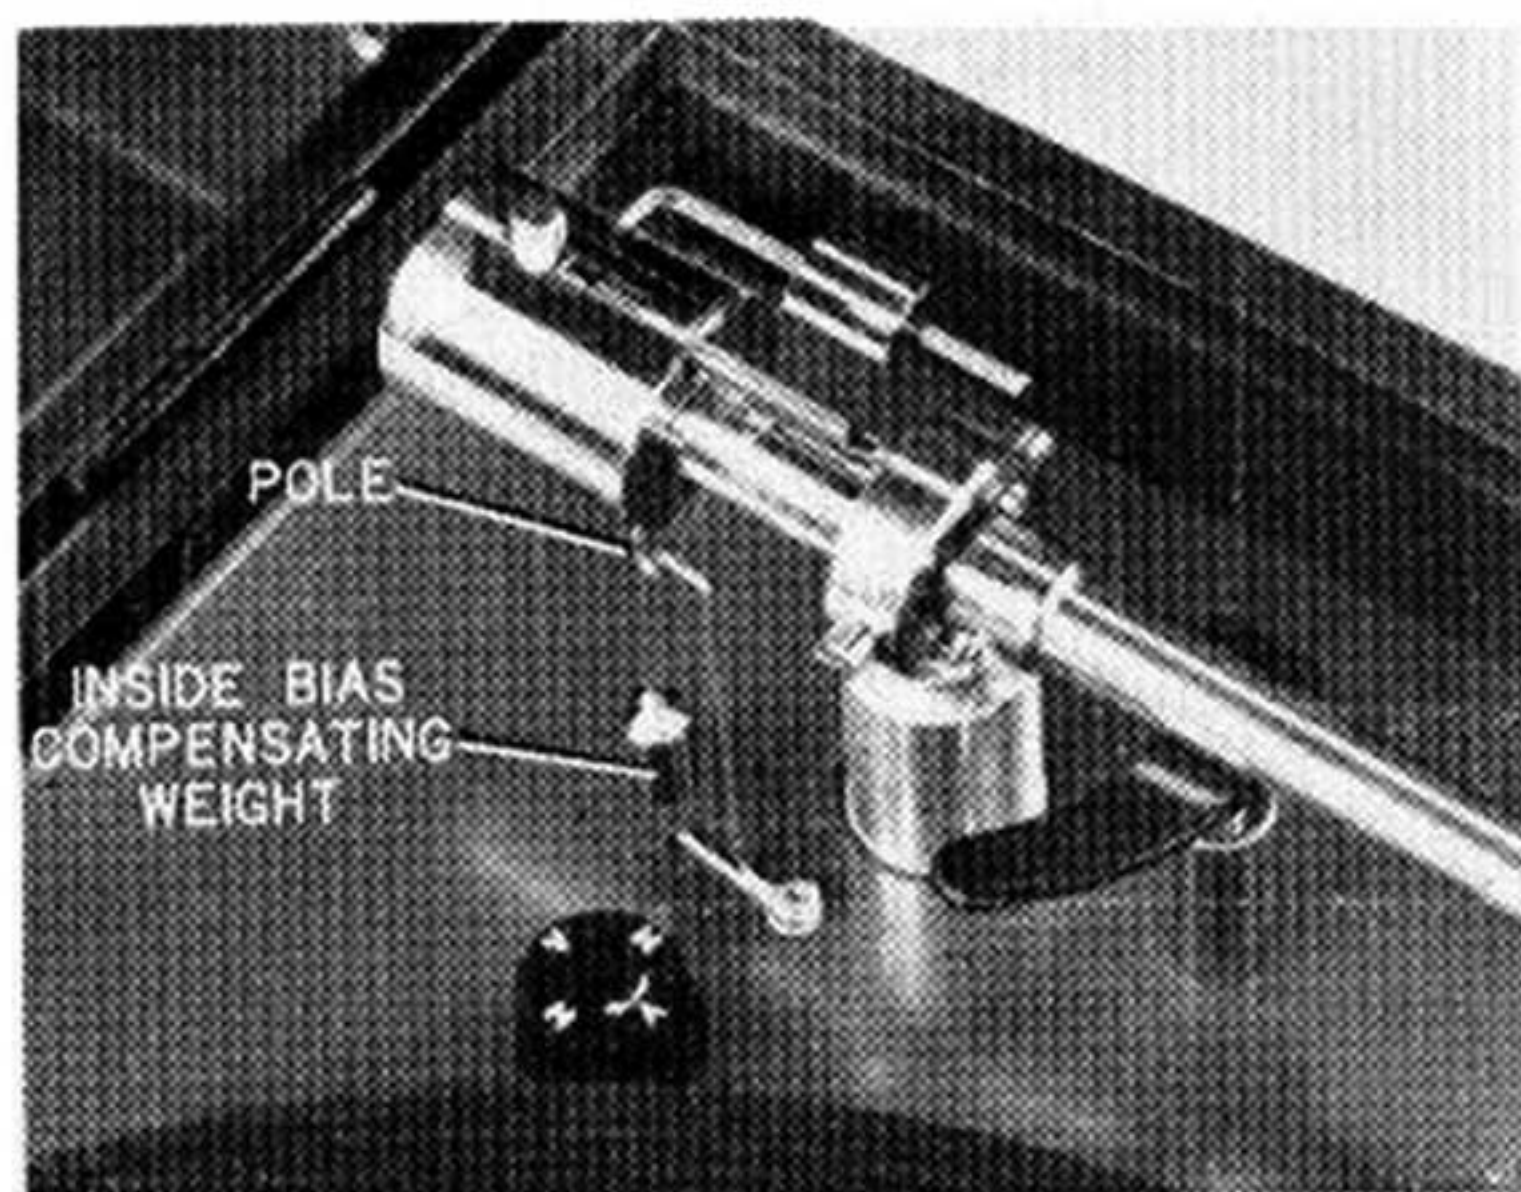

Fig. 4
5. Hang the inside bias compensating weight of tone arm through the pole as shown in Fig. 4.